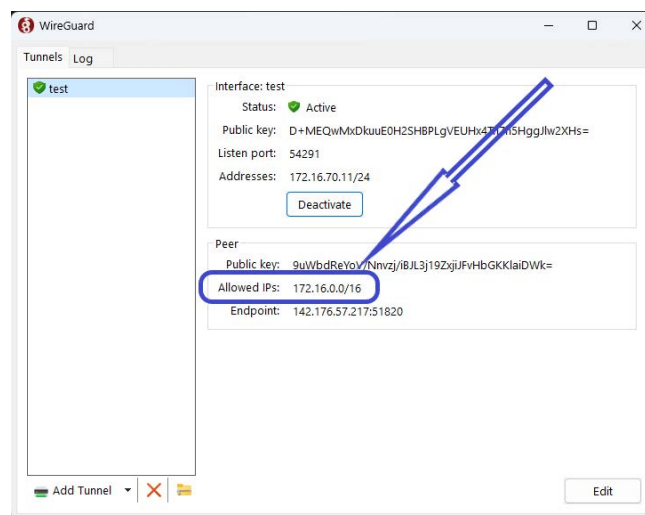

Figure 5-2
3. Allowed IPs are in the **“WireGuard”** (Figure 5-2).